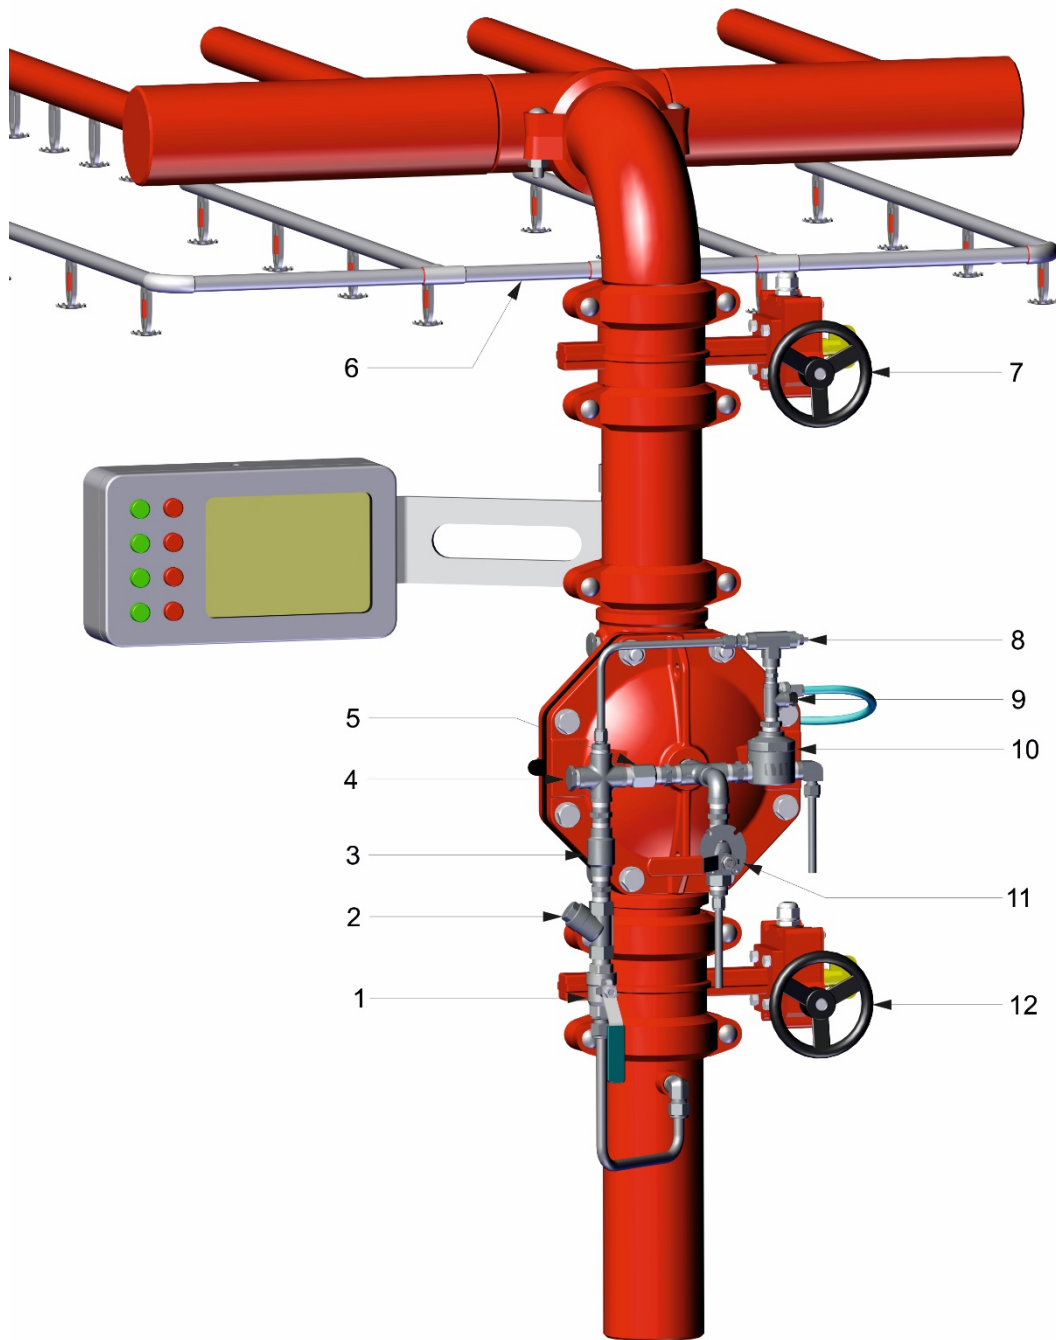

Figure 2
Installation (reference drawing – figure 2)
7. All connections to water supply, alarms etc. should be done in accordance with figure 2:
(Reference Drawing - figure 2)
- If when opening the inspector valve, the actuator (10 figure 2) opens and drain the deluge control chamber, no additional adjustment is required. If when opening the inspector valve, the actuator remains close, release the counter nut and turn the slotted adjustment screw clockwise. the needle valve's SE gradually the needle valve until reached to the point when the actuator opens. The deluge valve supposed to open as well, and water will flow out of the open downstream drain port.
- Close the downstream separation valve (7 figure 2)
Resetting & placing in service (Reference Drawing - figure 2).
Every 5 years inspection procedure (reference drawing Figure 2)